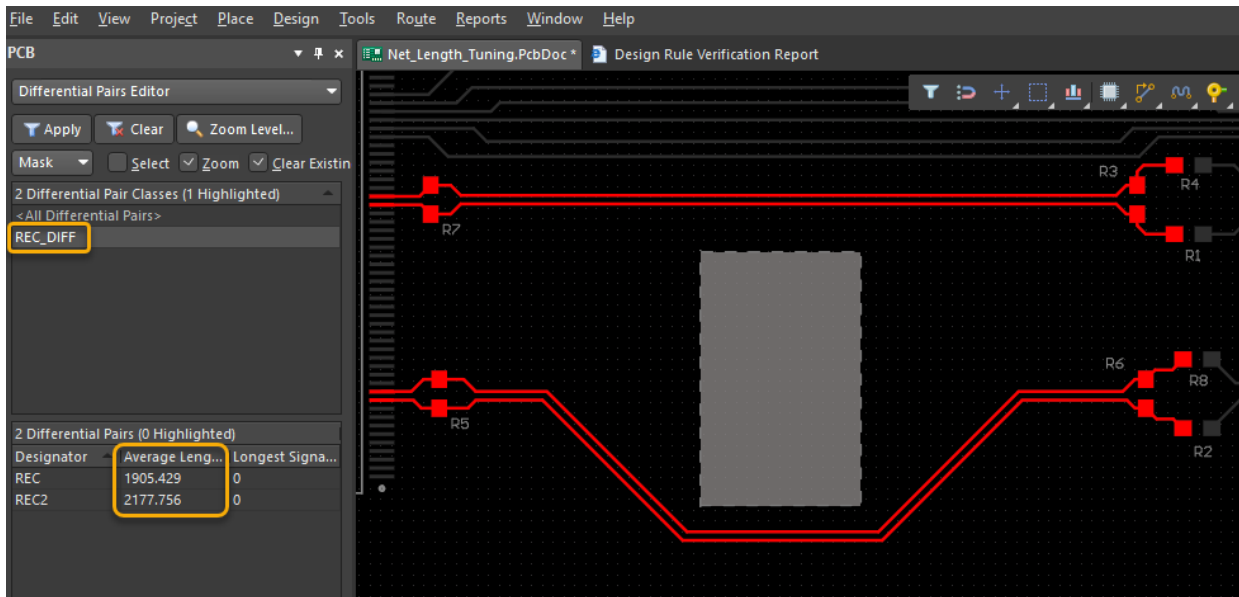

Figure 2. Differential Pairs Editor – PCB panel
15. Click on the `REC_DIFF` differential pair class to zoom to the two pairs on the PCB as shown in Figure 2. Note that the routed lengths are shown for each pair.